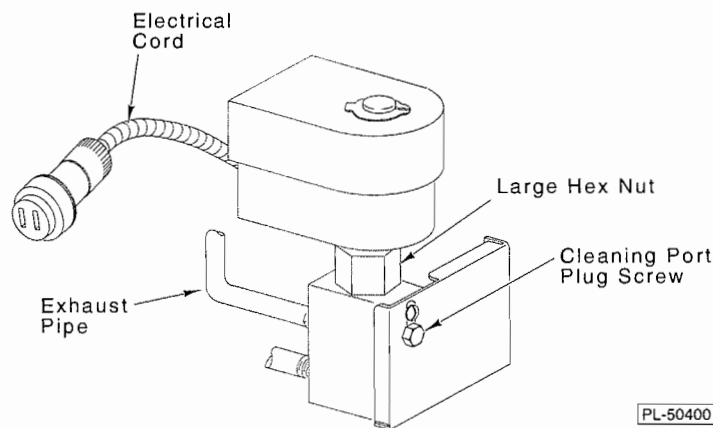

Fig. 20
Dismantle and clean the solenoid assembly. The solenoid assembly (Fig. 20) is located behind the second access door above the drain valve for the exhaust tank. An open-end wrench is supplied with each machine for this purpose.
1. Unplug the electrical cord attached to the upper portion of the solenoid assembly (see Fig. 20). To unplug, twist the plug counterclockwise and pull out.